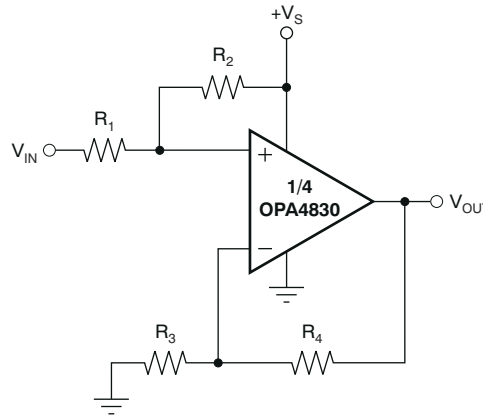

Figure 8-4. DC Level-Shifting
Figure 8-4 shows a DC-coupled noninverting amplifier that level-shifts the input up to accommodate the desired output voltage range. Given the desired signal gain (G), and the amount V_{OUT} needs to be shifted up (ΔV_{OUT}) when V_{IN} is at the center of the range, Equation 1 and Equation 2 give the resistor values that produce the desired performance. Assume that R_4 is between 200Ω and 1.5kΩ.